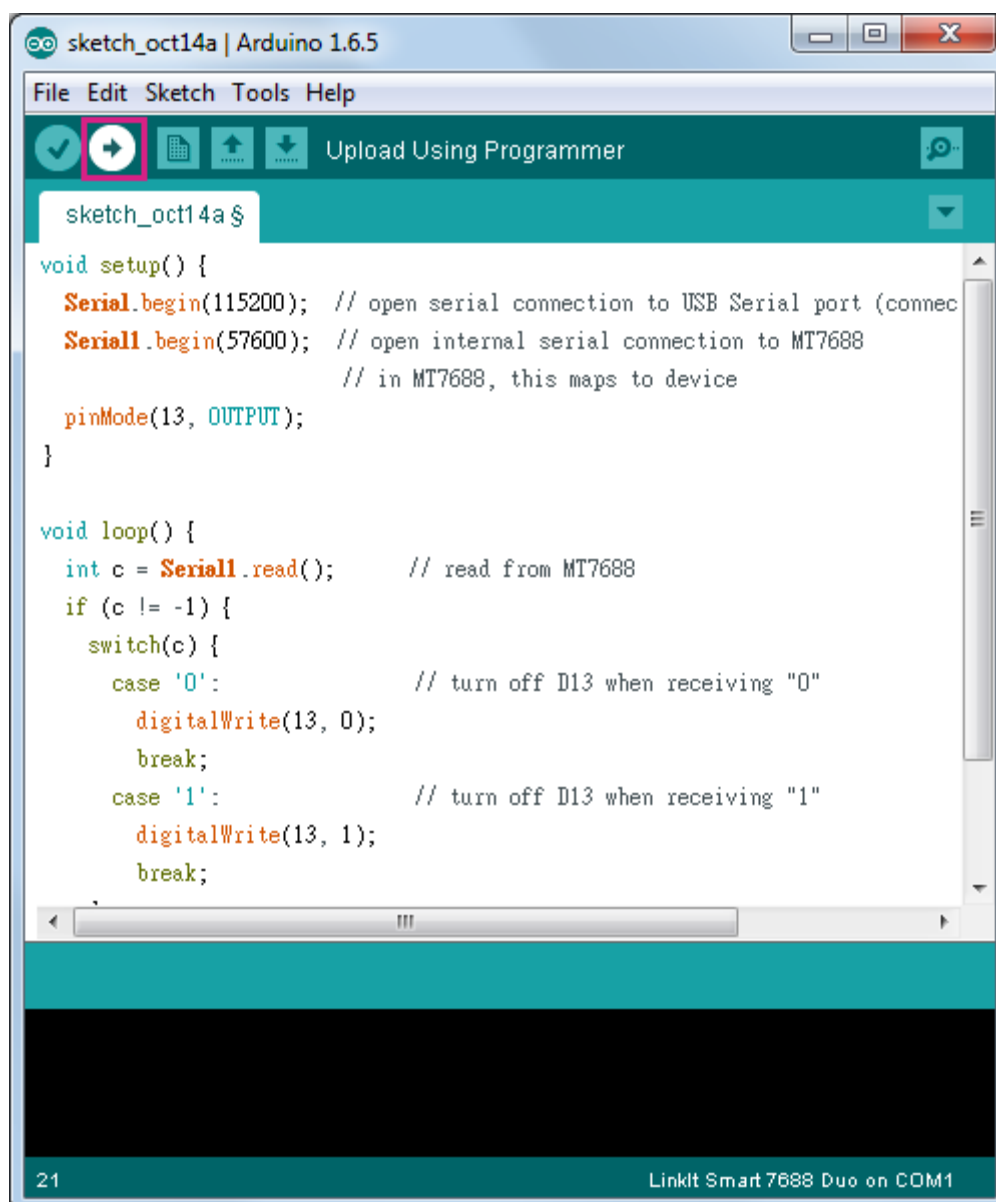

Figure 56 Upload Sketch in Arduino IDE
- 3) Upload the sketch to the board as shown in Figure 56. Note the board is not blinking yet – you'll need to write a program in the Linux side to make it blink, which is the next step.